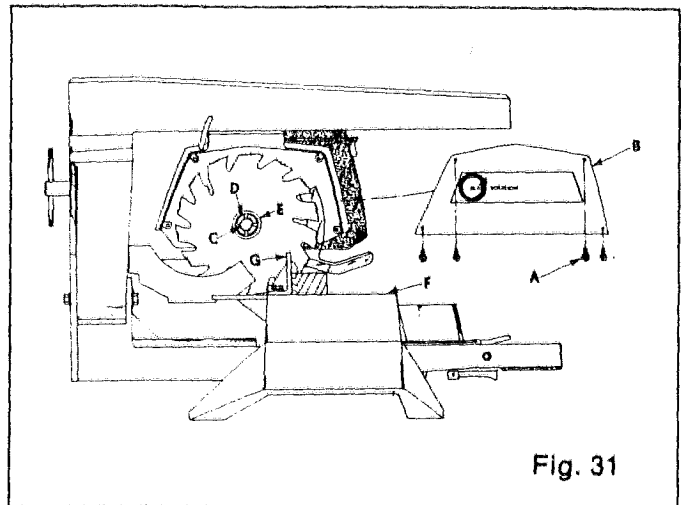

Fig. 31
1. Place saw head in the position shown in Fig. 31. Remove four screws (A) and blade cover (B).
2. Place a soft wood block on the turntable (F) seated against the front of the fence (G). See Fig. 31. Move the saw head until the blade teeth embed in the block and hold securely.
3. With the wrench furnished loosen the blade screw (C) until it can be removed by hand. **NOTE: THE BLADE SCREW HAS LEFT-HAND THREADS.**
4. Remove the screw (C), spring washer (D), and outer blade washer (E).